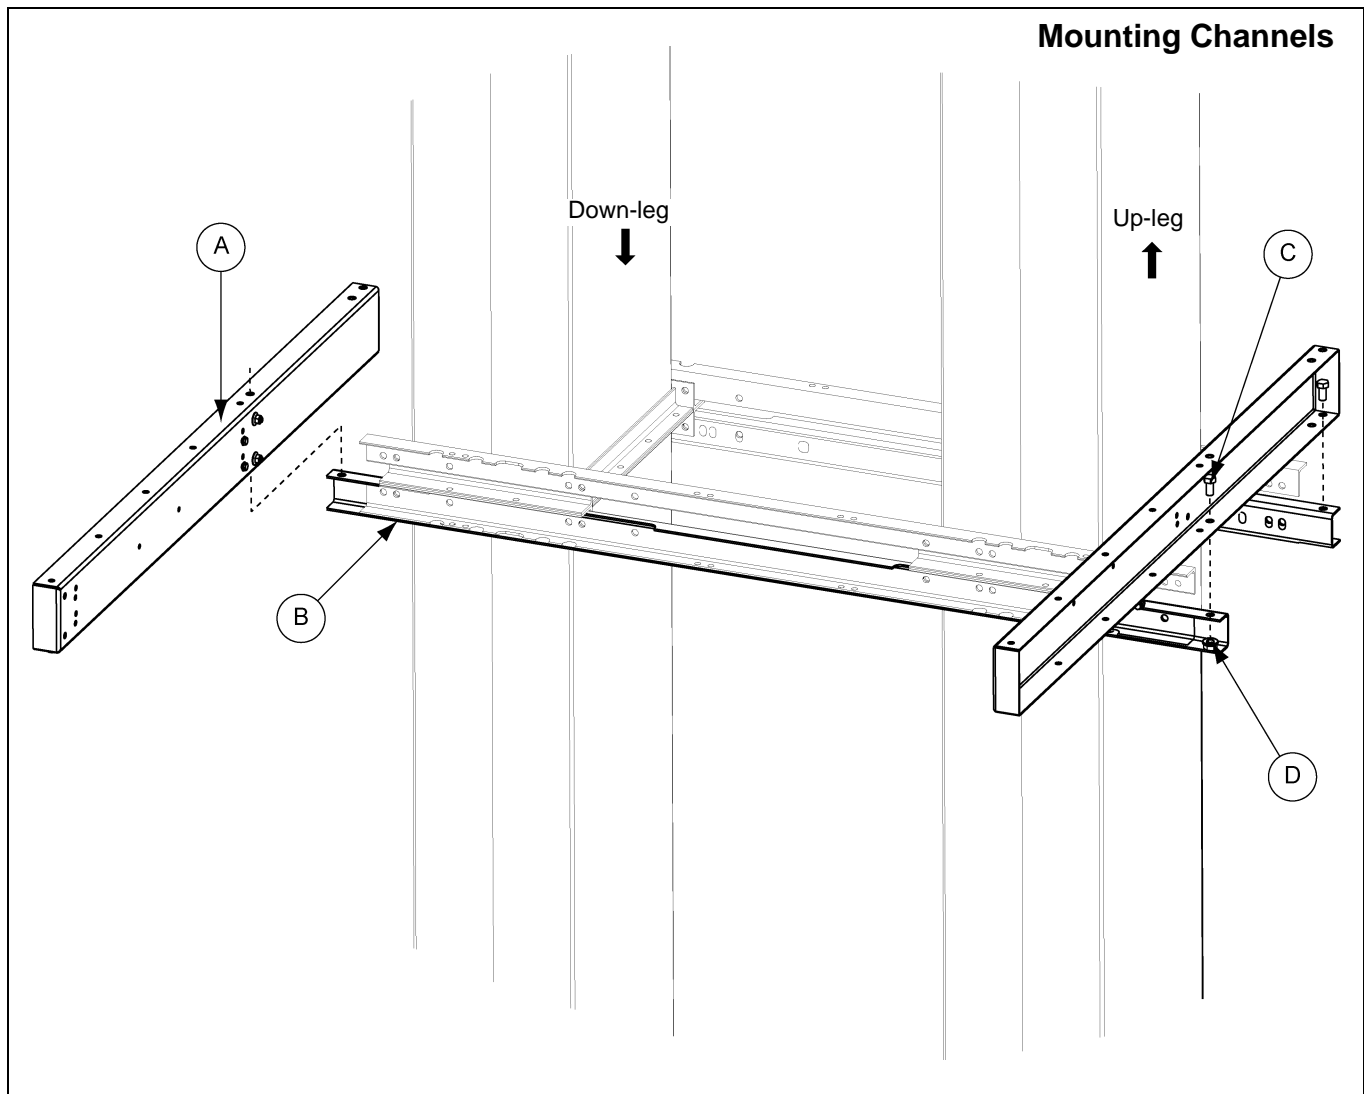

Figure 7E Bolt hole locations for 30"-36" rest platform mounting channels to tie angles.
1. Connect rest platform mounting channels (RP1636MCX) (A) to the rest platform tie angles (GECT1640FCRPX2) (B) using 1/2" x 1" bolts (S-7935) (C). Bolt hole locations for 30"-36" bucket elevator will be the same. (See Figure 7E.)